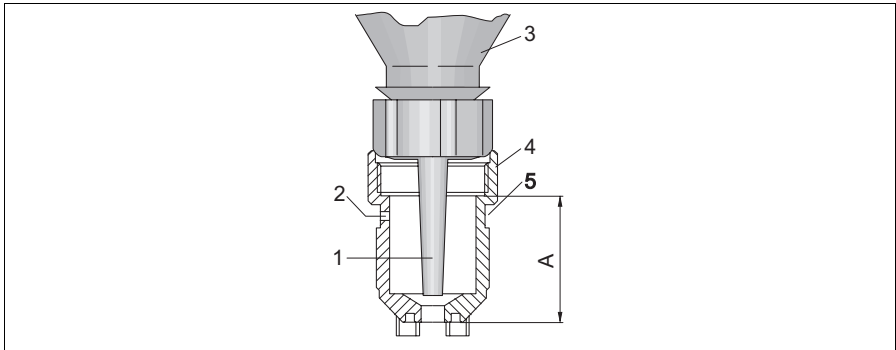

Fig. 8: Membrane cap with electrolyte bottle
3. Place the electrolyte bottle completely onto the membrane cap (Fig. 8).